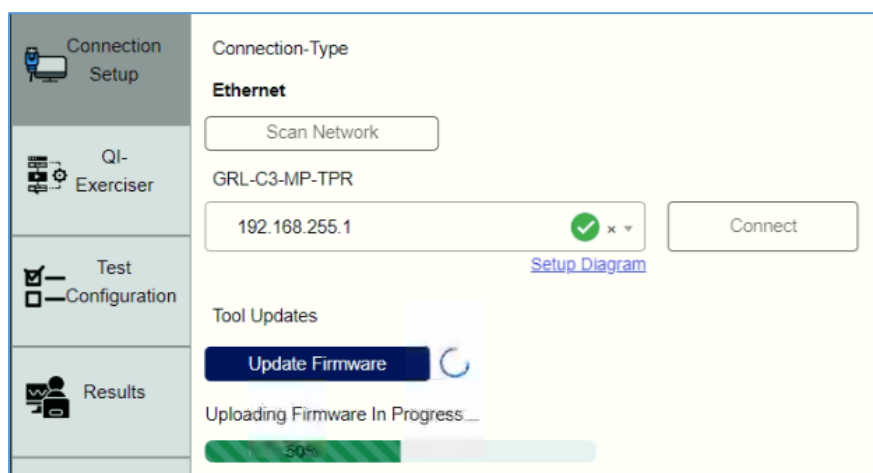

FIGURE 7.5: UPDATE GRL-C3-MP-TPR FIRMWARE– #2
2. The firmware update process will start and may take a few minutes to complete (Figure 7.5 below).